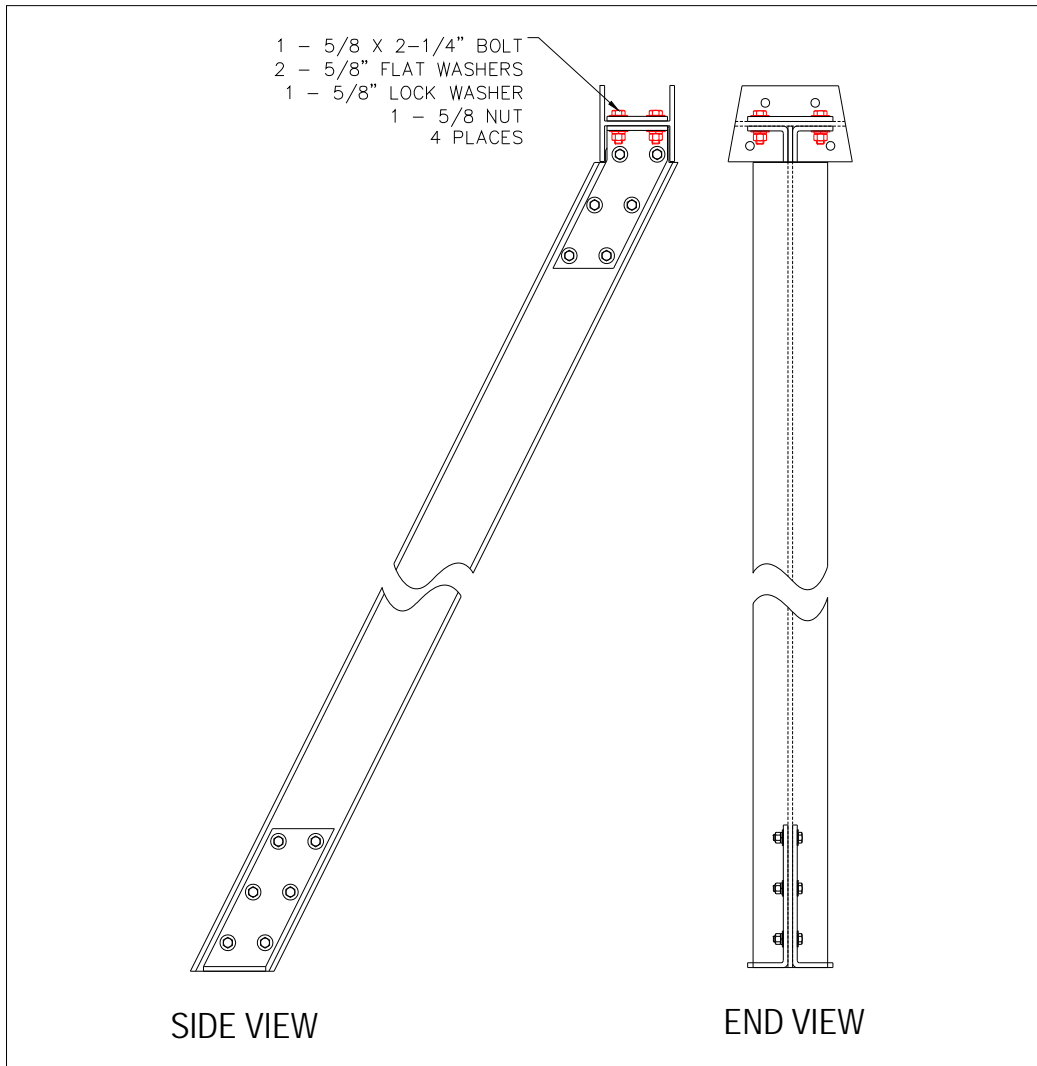

Figure 4-8 Assembly step 10
- (10) Securely fasten the Cross member (Item 9, Table 2-1) to the upper angle clips using the backing plate (Item 20, Table 2-1) and four 5/8" x 2-1/4" bolts. Apply a few drops of thread-locker (item 23, Table 2-1) to the threads before assembly. Refer to Figure 4-8.